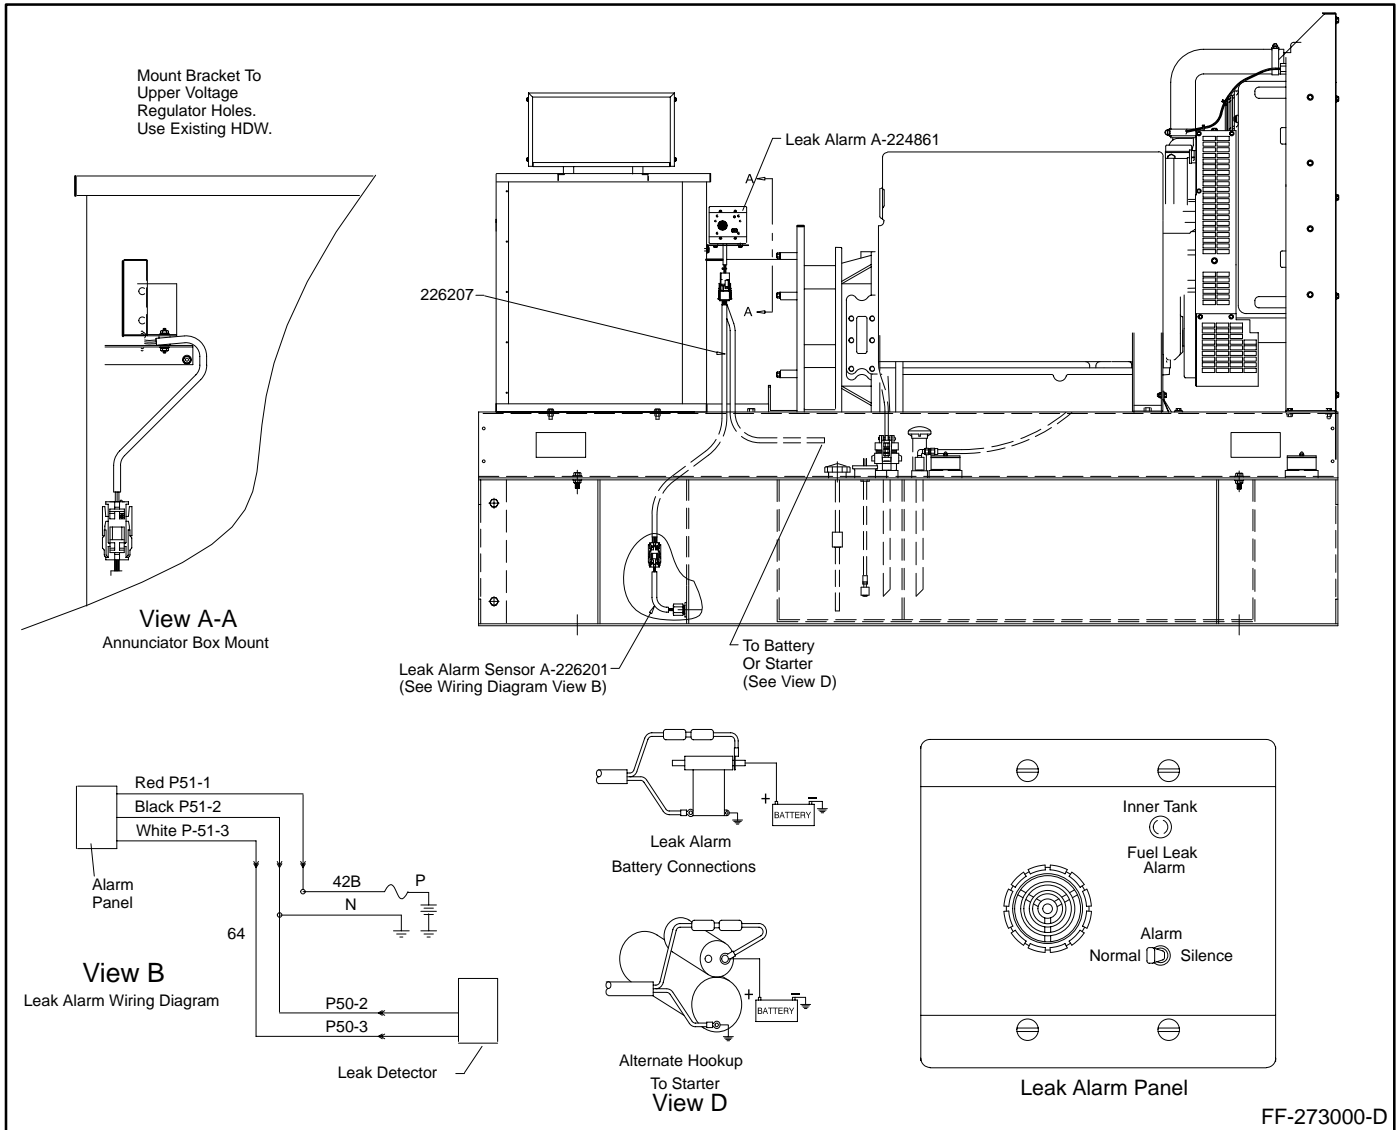

Figure 1. 20-400 kW Double-Wall Subbase Fuel Tank Leak Alarm Installation
4. Mount annunciator box assembly to junction box. See Figure 1 for mounting location.
5. Remove pipe plug from tank for leak alarm sensor. See Figure 1 for pipe plug location. Apply pipe sealant to threads of leak alarm (A-226201) and install in tank.
6. Connect leak alarm wiring harness (226207 or 226208) to annunciator box assembly and leak alarm sensor. See Figure 1.
7. Connect wire harness power leads to either battery or starter. See Leak Alarm Battery Connections Figure 1.
See Figure 1 for Leak Alarm Panel view.